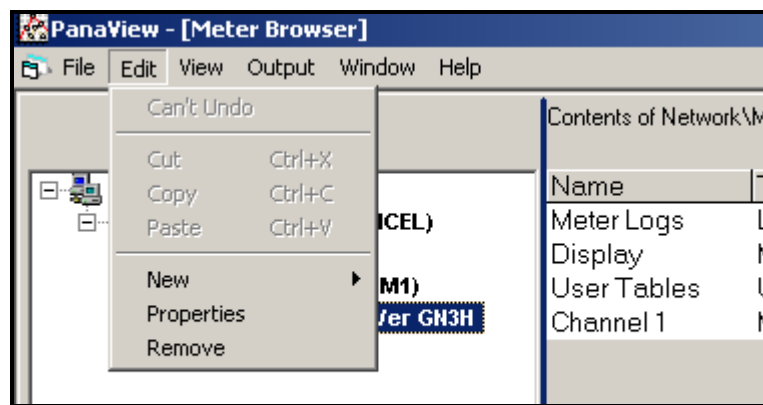

Figure 25: *Properties* Option in the *Edit* Menu
2. Open the "Edit" menu and select the "Properties" option, as shown in Figure 25 below.